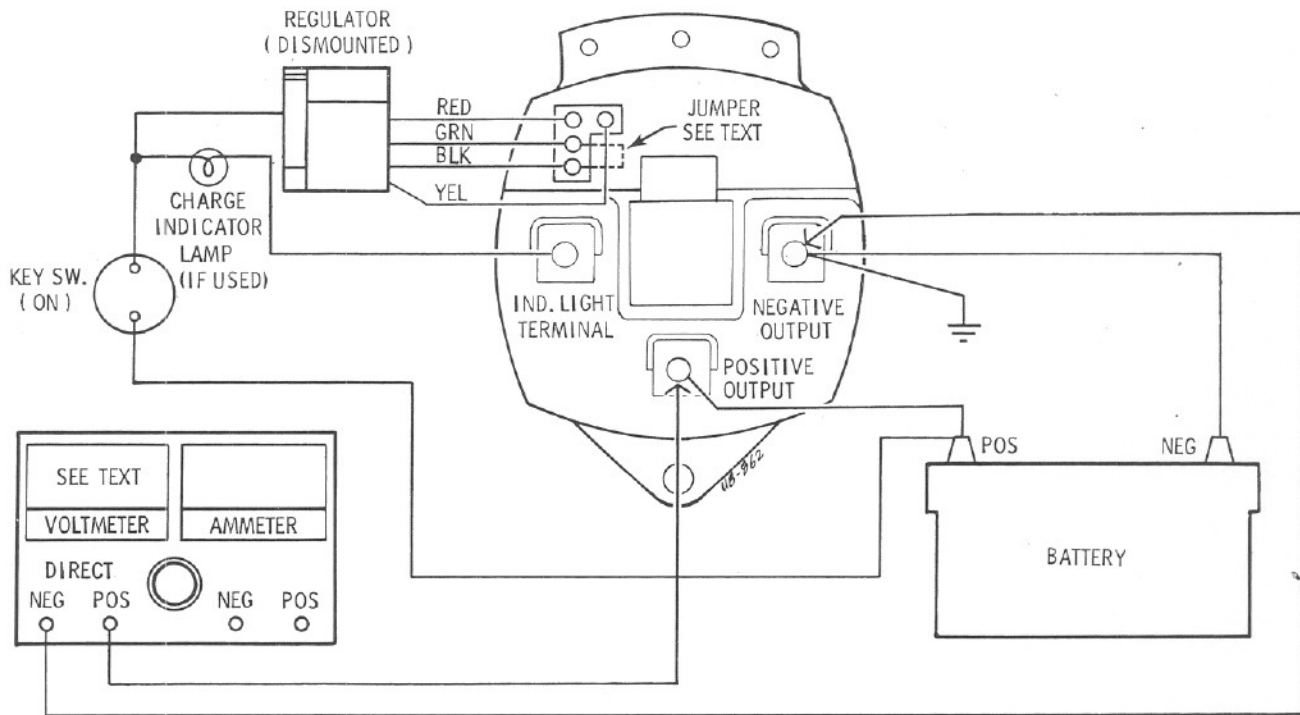

FIG. 15 VERSION 1 – OPEN REGULATOR TEST
- Version No. 1 Regulator \* – perform regulator test, see Figure 15.
**VERSION NO. 1 REGULATOR** – Connect jumper from field terminal on alternator terminal board to the negative terminal on the board, Figure 15.